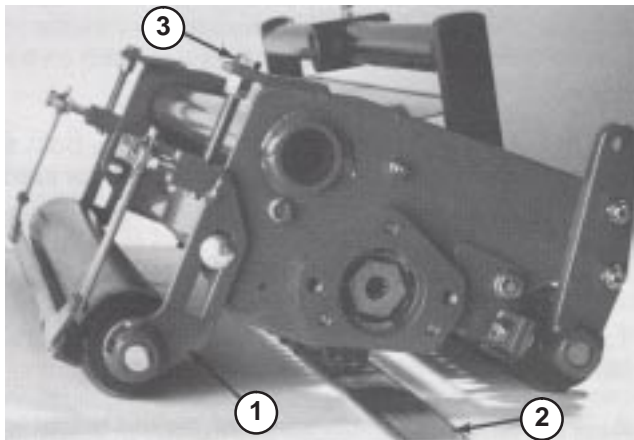

Figure 1
Adjusting Reel Blades For Positive Setting (Above Ground) (Fig. 1)
2. Loosen the (2) locknuts on carriage bolts securing rear roller brackets to dethatcher frame (Fig. 1).